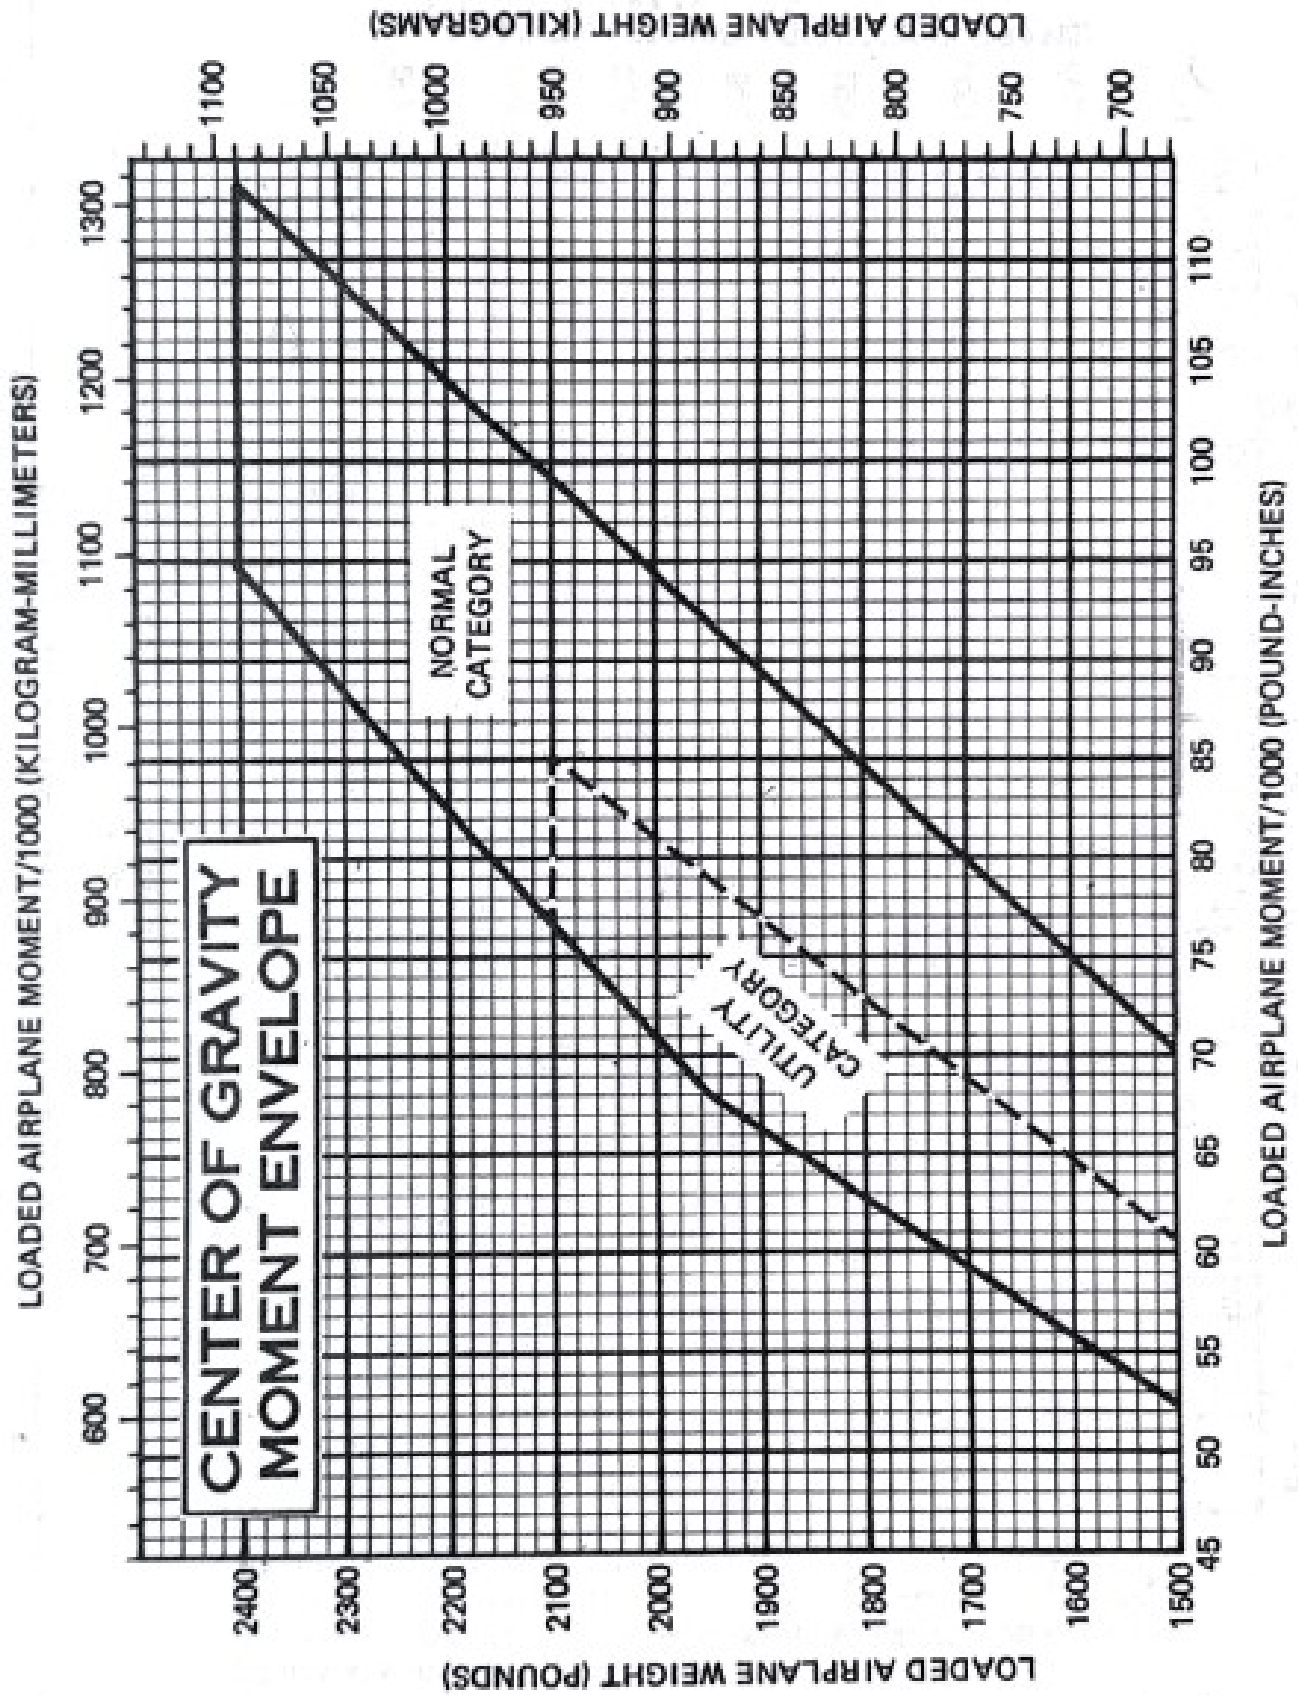

Figure 6.7
9. Calculate the total take-off weight by subtracting the value in line 8 from the value in line 7 (weight). Calculate the total take-off moment by subtracting the value in line 8 from the value in line 7 (moment). Using the graph (Figure 6.7), plot the weight and moment to ensure that they intersect within the center of gravity moment envelope. Enter these amounts in Row 9 columns 1 (e.g. 2400) and 2 (e.g. 107.8).